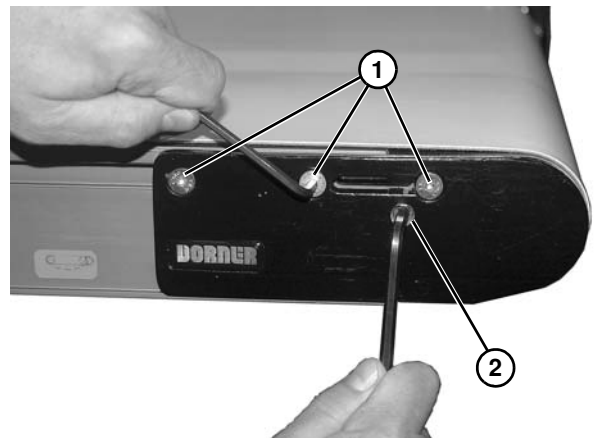

Figure 62
1. On the side opposite which the belt is tracking, loosen head plate fastening screws (**Figure 62, item 1**).
2. With the conveyor running, use a hex-key wrench to rotate the tracking cam (**Figure 62, item 2**) to retract tail in small increments until the belt tracks in the center of the conveyor. Then while holding the cam in position, re-tighten the head plate fastening screws (**Figure 62, item 1**) to 7 Nm.